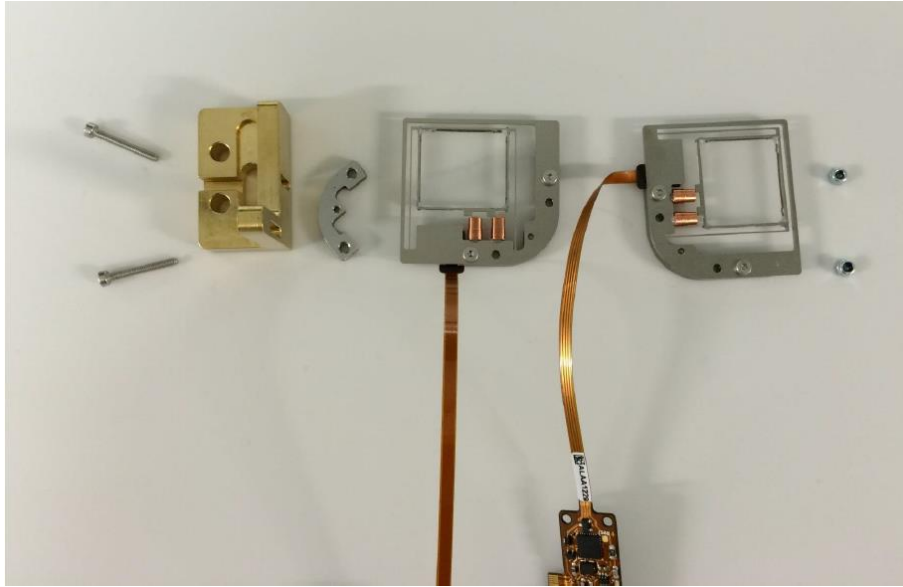
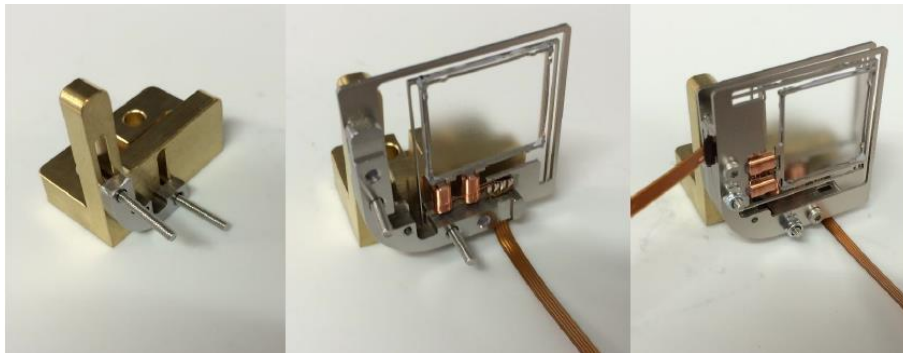

Figure 7: Parts delivered when purchasing the LSR-4C-LL together with the LSR-4C-LL mounting kit and LSR-4 Bracket kit.
Figure 8: Assembly steps for the LSR-4C-LL.
When purchased together with the LSR-4C-LL Mounting Kit, the assembly and mounting of the LSR-4C-LL goes as follows. The individual parts are shown in Figure 7 and the individual assembly steps in Figure 8.
1. Attach the mounting kit (6) to the bracket (1) using the supplied M2x16 screws (7).
2. Attach the first LSR-4C-L (5) to the mounting kit (6) by threading it onto the M2x16 screws (7). Take care to orient the device according to Figure 8.
3. Attach the second LSR-4C-L (5) to the mounting kit (6) by threading it onto the M2x16 screws (7), flush against the first LSR-4C-L. Take care to orient the device according to Figure 8. Fix the devices with the M2 nuts (-). Tighten all screws such that the LSR-4C units are rigidly fixed to the respective parts.
4. Mount the complete setup on e.g. an optical post using the M4x16 screws (3) and washers (2).